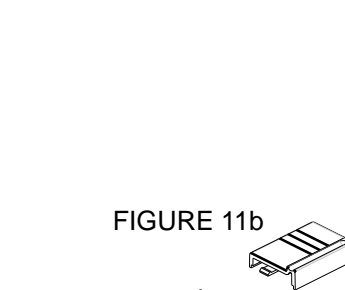

FIGURE 11b
2. Fit the 3V Lithium battery supplied, with the positive (+) facing upwardly. (FIGURE 11b)